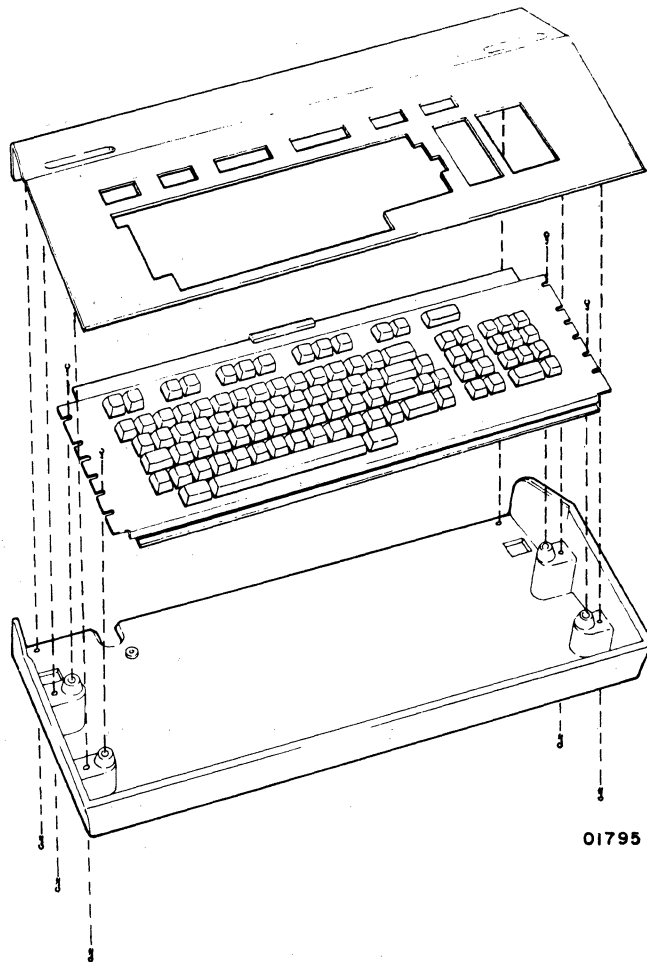

Figure CRT27. Keyboard Assembly
- 6) Return keyboard to keys-up position and lift cover off (figure CRT27).